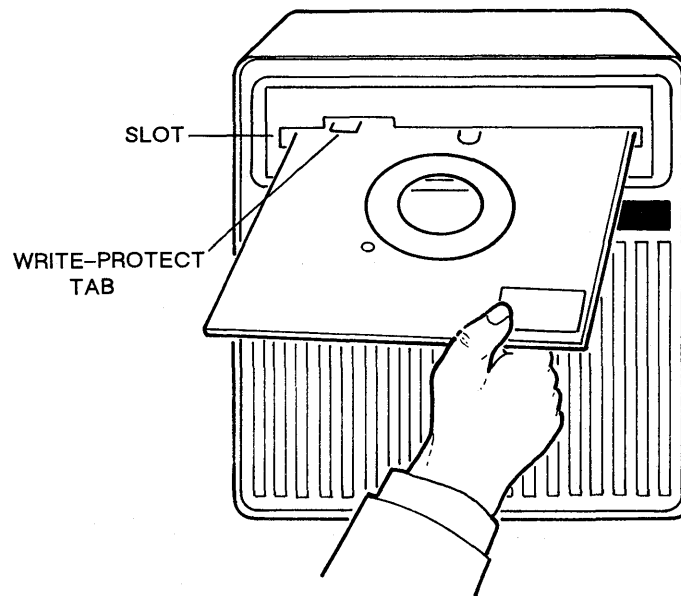

Figure 2-4. Loading a Floppy Disk into the Disk Drive
3. Insert the front edge of the floppy into the drive as shown in Figure 2-4. Make sure that you insert it rightside up.